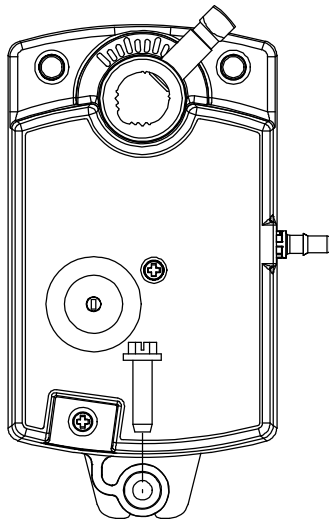

Figure 6: Inserting the Screw into the Shoulder Washer
7. Hold the actuator in place on the damper shaft, and insert the No. 10 self-drilling sheet metal screw through the shoulder washer, as illustrated in Figure 6.